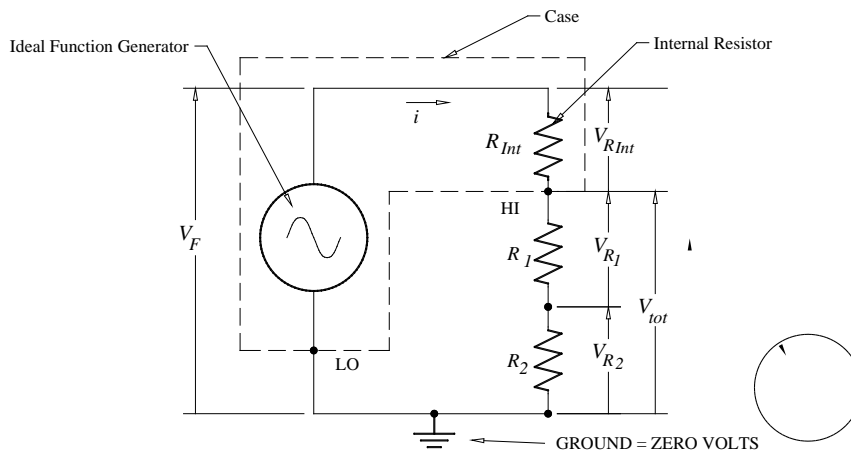

Figure 8 Function generator connected to two resistors in series.
When only resistors are involved in AC circuits the peak-peak voltages can be treated just like DC voltages and used to determine the peak to peak current in a circuit. Kirchoff's loop theorem and Ohm's Law can be used to evaluate the circuit just as if it were DC only. Figure 8 represents the function generator connected to two resistors in series with the voltages drawn as vectors point up from ground. The convention is that voltage **sources** are drawn on the left and voltage **loads** are drawn on the right. The function generator is represented by an ideal AC voltage source V_F in series with an internal resistor R_{Int} . A dashed line indicates the case of the function generator. The output posts of the generator are indicated by two dots labeled HI and
Also from Figure 8 you should see that
13) Disconnect the oscilloscope from the function generator and connect the resistors labeled R_1 and R_2 between the HI and LO Function outputs as shown in Figure 8. Then connect the oscilloscope to measure and record the voltage across both resistors, V_{Tot} , using both the CURSOR and MEASURE Menus. Disconnect the resistors from the circuit and use a digital multimeter (DMM) configured as an ohmmeter to measure the resistances of R_1 and R_2 .
Looking at the ratio of the voltages on the two resistors in Figure 8 you can see that: